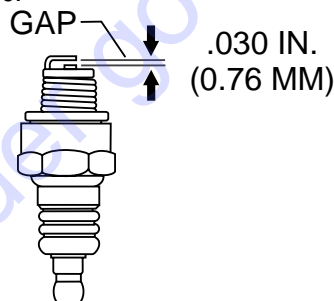

Figure 22. Spark Plug Gap Adjustment
5. Measure the spark plug electrode gap (Figure 22) with a wire-type feeler gauge. If needed, adjust the gap to .030 in. (0.76 mm), by carefully bending the side electrode.